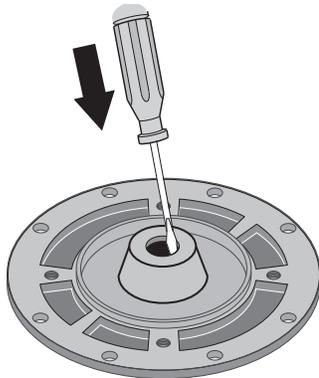

Figure 18 - Tap Out Seal
- Place seal plate half face down on flat surface and tap out stationary half of seal (Figure 18).